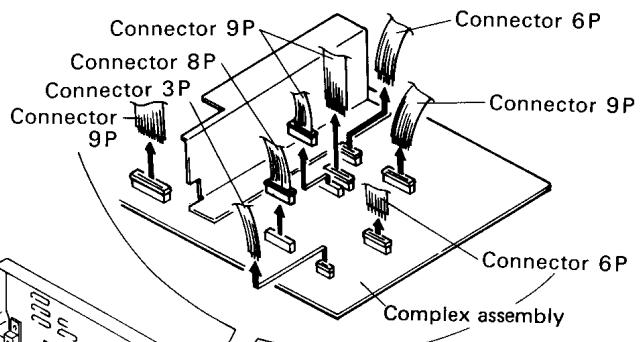

Fig. 4-2-1
1. Remove 2 connectors namely, connectors 9P and 8P, and 6 connectors namely, 3P, 6P, 6P, 9P, 9P and 9P from the complex assembly (Fig. 4-2-1)
2. Remove 2 screws ① and the belt. Apply that belt to the claw.
3. Disengage the 2 positions of claws. (Fig. 4-2-1)